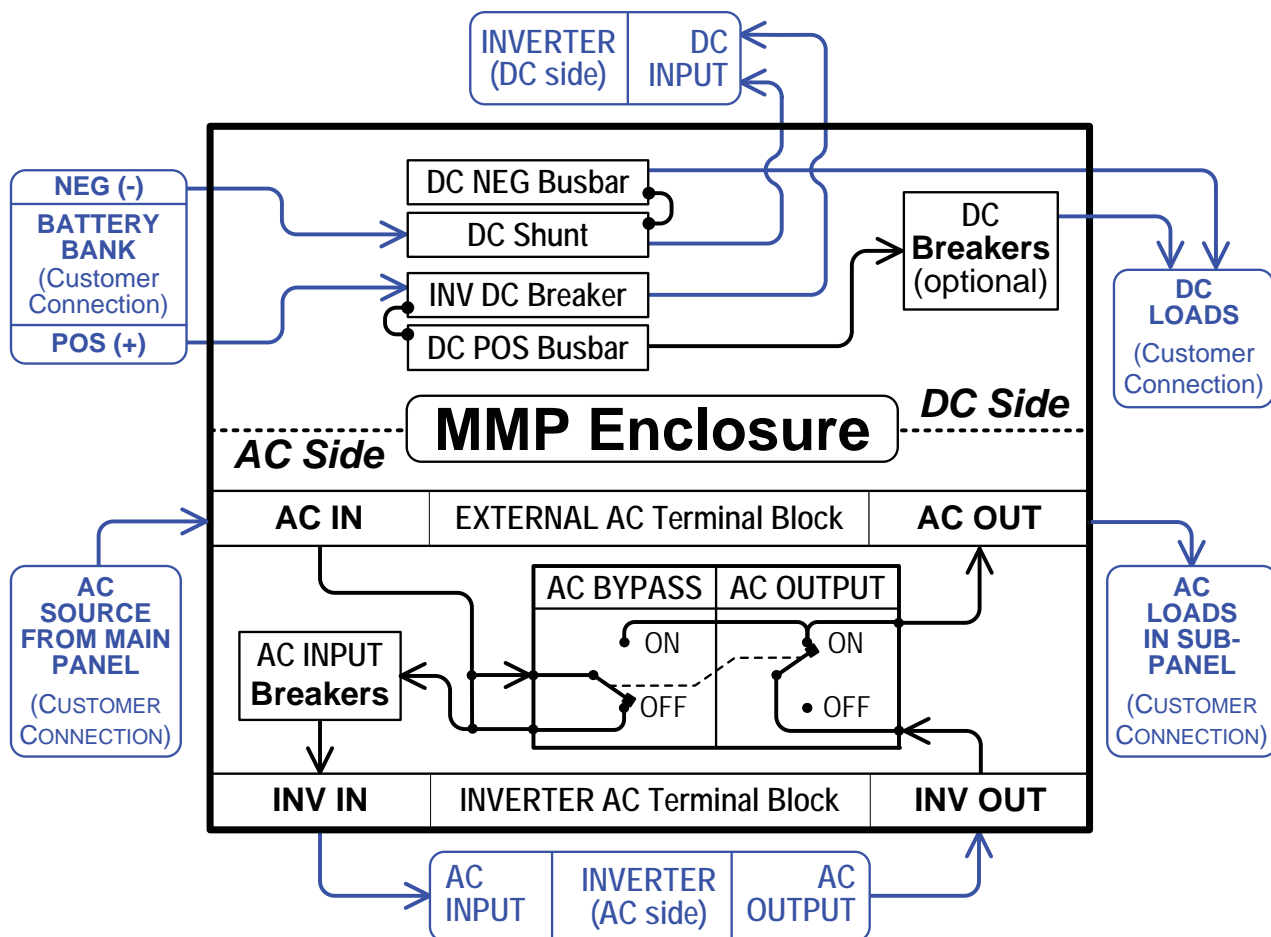

Figure 4-1, MMP Functional Diagram
The MMP enclosure provides you with circuit breakers/disconnects to easily operate and maintain your inverter/battery system. These breakers are used as the main power disconnecting means and/or overcurrent protection. Refer to Figure 4-1 (MMP Functional Diagram) to see the functional operation of the breakers within the MMP enclosure.
**Info:** Figure 4-1 is for descriptive purposes only, for specific wiring directions please refer to the relevant wiring diagram in the Installation section of this manual.